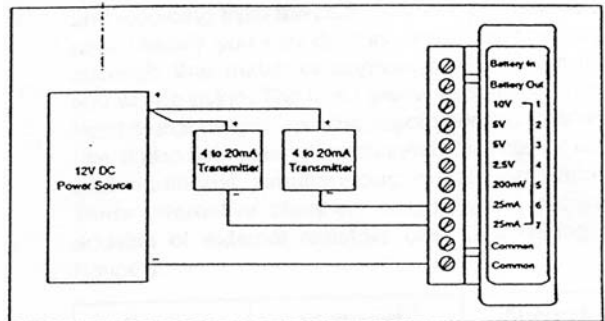
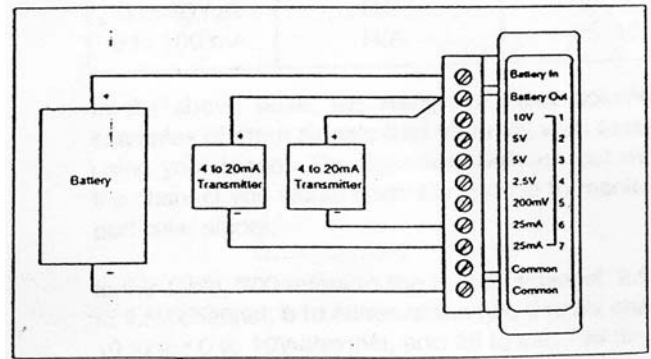

Figure 6: Using Transducers with Power Supply
Figure 7: Using Transducers with a Battery
5. Decide how you are going to power your transducers (if required). You can either use a standard power supply and create a circuit like that shown in Figure 6 or use batteries (see External Battery Operation) and produce your own self-contained logging assembly (Figure 7). For this application, you must activate the internal battery switch.